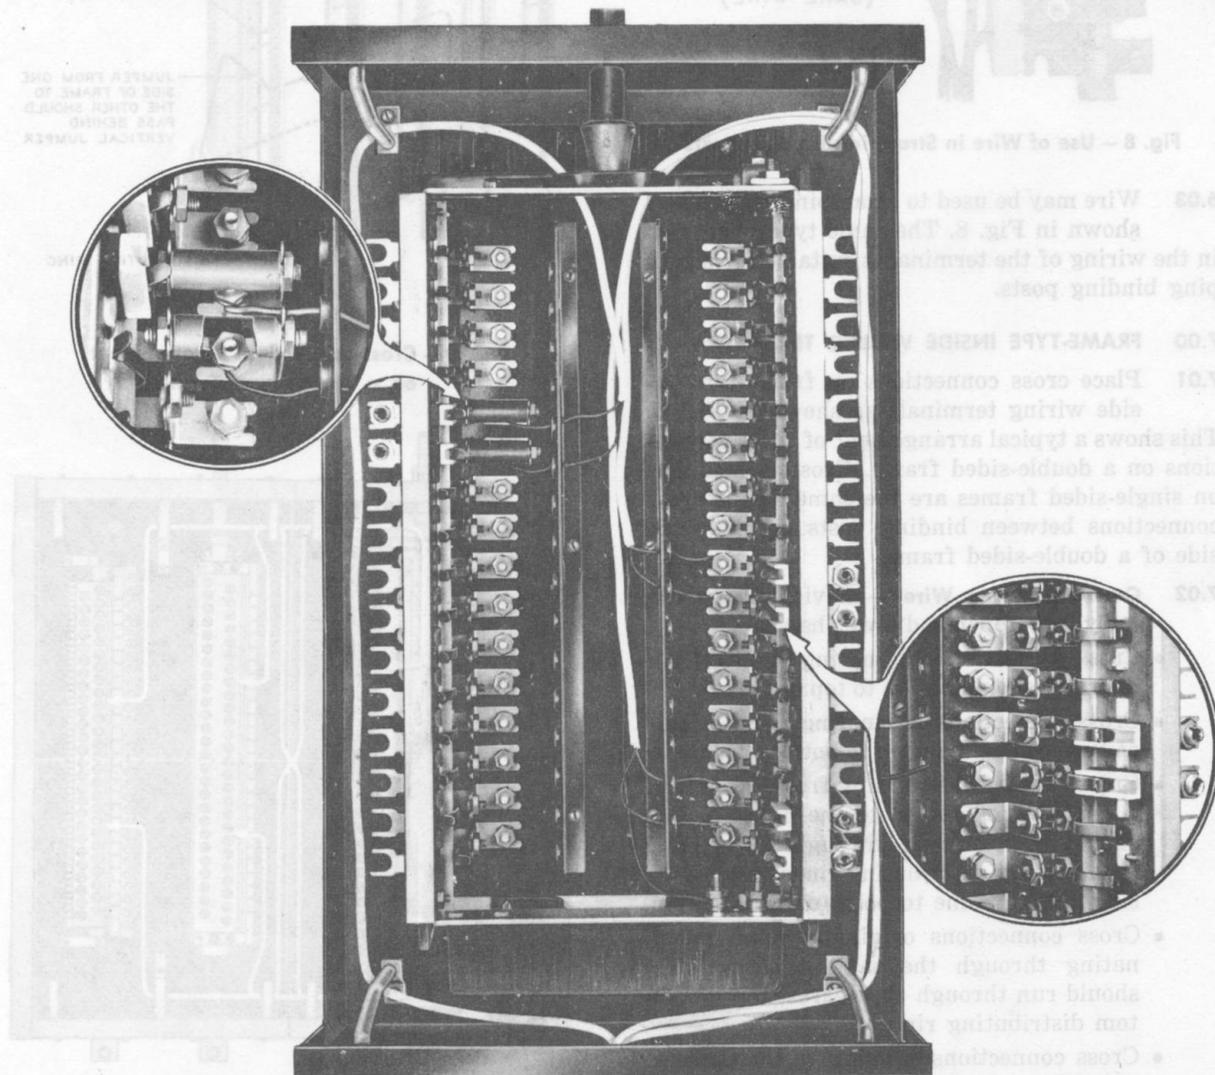

Fig. 11 — Typical Station Wiring of LC-type Terminal
8.03 The LC-type terminal is equipped with an LA-type fuse chamber. No space is provided for binding post chamber or connecting block within the terminal. Station wires may be terminated on the binding posts of the fuse chamber shown in Fig. 11. Place 60-type fuses as specified in the section entitled Protection and Fusing of PBX Trunks, Tie Trunks, Ringing and Battery Feeders, and Off-premises Extensions.
**8.05** The 2-piece clip for mounting the 60-type fuse on the front of LA- and LB-type fuse chambers is joined by a P-290225 connector as shown on the right in Fig. 11 and 12. When a
60-type fuse is used, the connector is removed and stored in the bottom of side panel. The portion of the clip which is toward the center of the chamber should be removed from the binding post and re-installed to form a mounting for the fuse as shown on the left in Fig. 11 and 12.